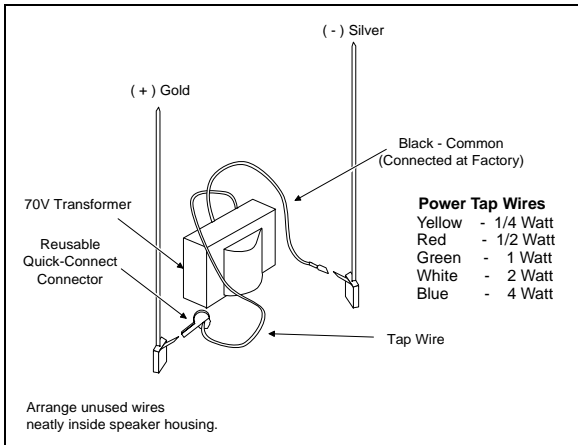

Figure 3. Connecting the Tap Wire (V-5330200 Only)
4. Connect the power-tap wire to the gold (+) terminal (see Figure 3).